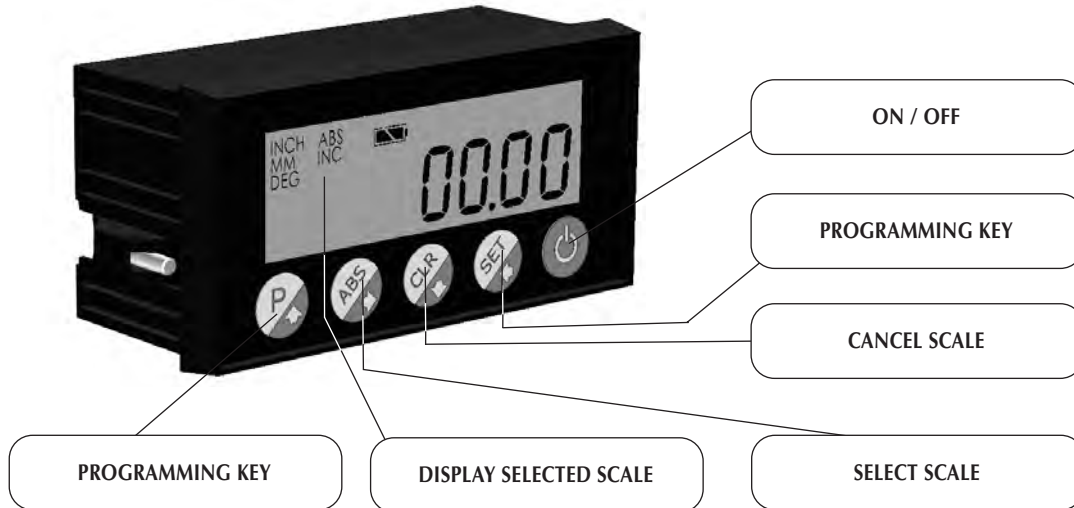

Fig. 5.4
4. Switch the machine on using the switch ref. 4 **Fig. 5.1** and then switch the display devices on using the key  **Fig. 5.4**
5. Turn both scales on the display devices to zero using the "CLR" key; **Fig. 5.4** (each display unit has two independent scales "ABS" and "INC", these can be called up using the "ABS" key).
- 3 Call up on the display unit the "ABS" scale using the "ABS" key **Fig. 5.4**
- 5 Call up the "INC" scale on the display unit by using the "ABS" key and zeroise it pressing the "CLR" key **Fig. 5.4**
- 3 Call up on the X-axis display unit the "ABS" scale using the "ABS" key **Fig. 5.4**
- 6 Call up the "INC" scale on the Y-axis display unit using the "ABS" key and zeroise it with the "CLR" key. **Fig. 5.4.**